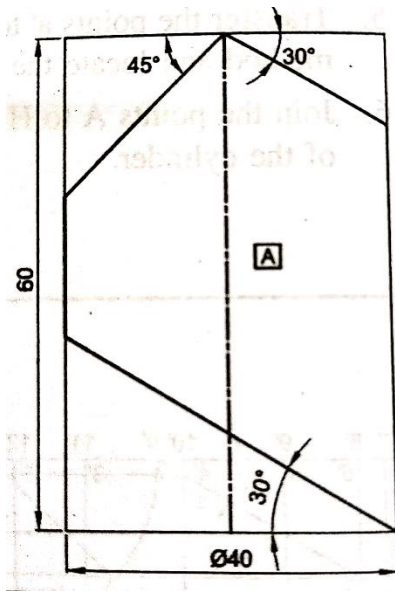

Fig. 2 Cylinder
- (b) Draw development of surfaces of Part– A of the Cylinder as shown in fig. 2. 07